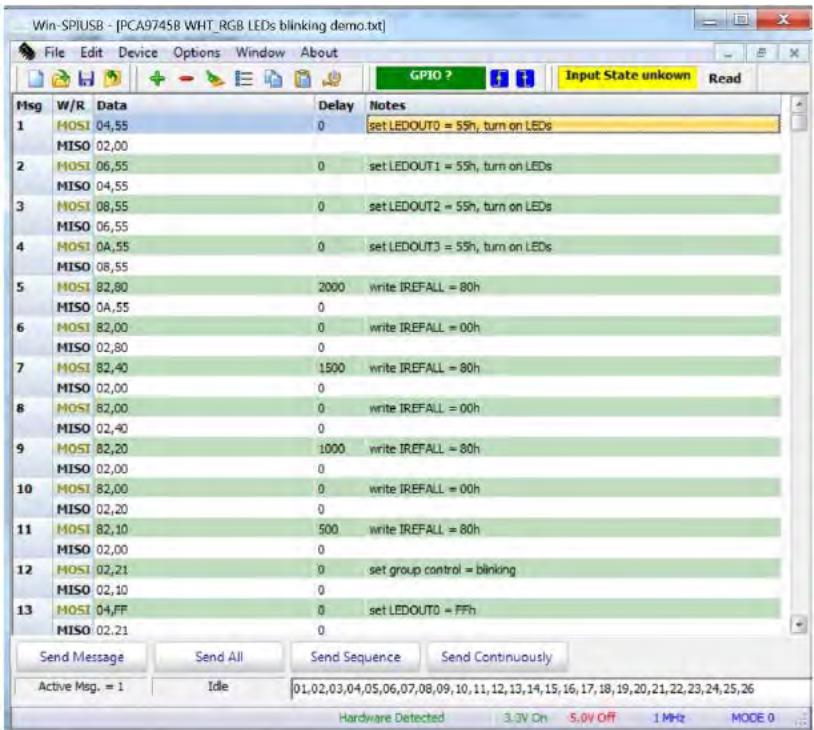

Fig 7. Message data in Expert mode to demo all White and RGB LEDs for blinking
3. After open the “PCA9745B WHT_RGB LEDs blinking demo” text file, the WIN-I2CUSB GUI in Expert mode screen will be displayed as shown in Fig 7.
5. User can program the MOSI (Master Out Slave In) Data to PCA9745B, the first 7-bit is to access the address of register and 8th bit to indicate Read (1) or Write (0), the next byte is data to read or write.